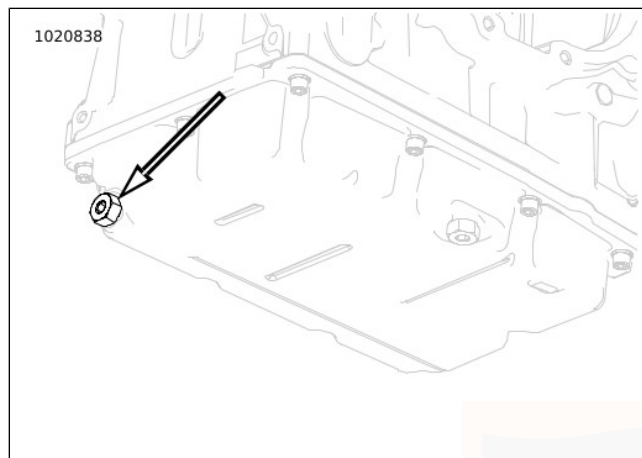

Figure 53. Engine Oil Drain Plug
3. See Figure 53. Remove the oil drain plug (2) and O-ring. Allow oil to drain completely.